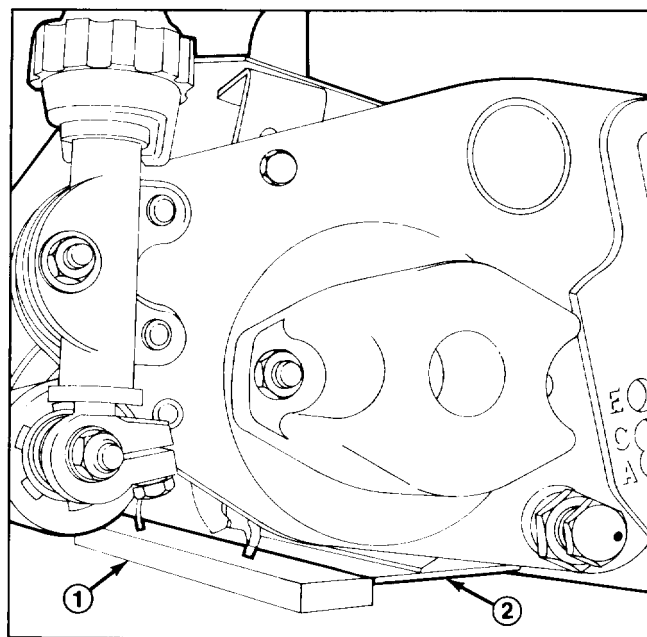

Figure 5
6. Position a 1/4 inch or thicker plate under the reel blades and against the front face of the bedknife (Fig. 5).